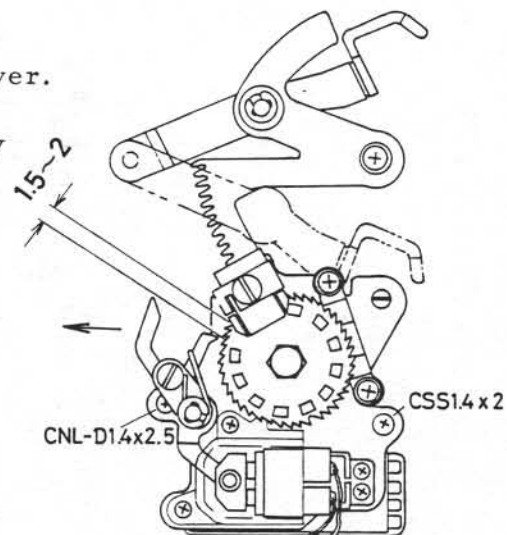

Fig. 15
1. Push the lever in the arrow direction as shown in Fig. 15 to set the magnet in the holding condition.